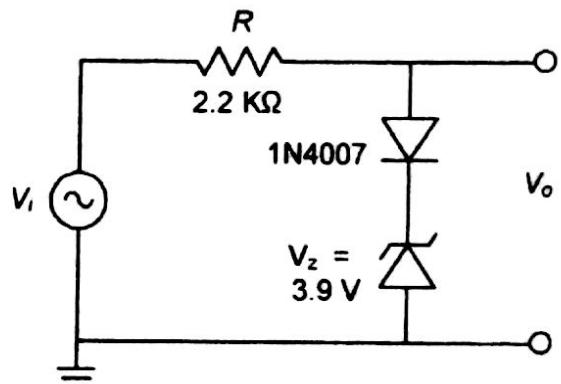

Fig. 2.2 Positive clipper
- Connect the circuit as shown in Fig. 2.2 with $R = 2.2 \text{ k}\Omega$.
- Connect the function generator output to the circuit as shown in Fig. 2.2.